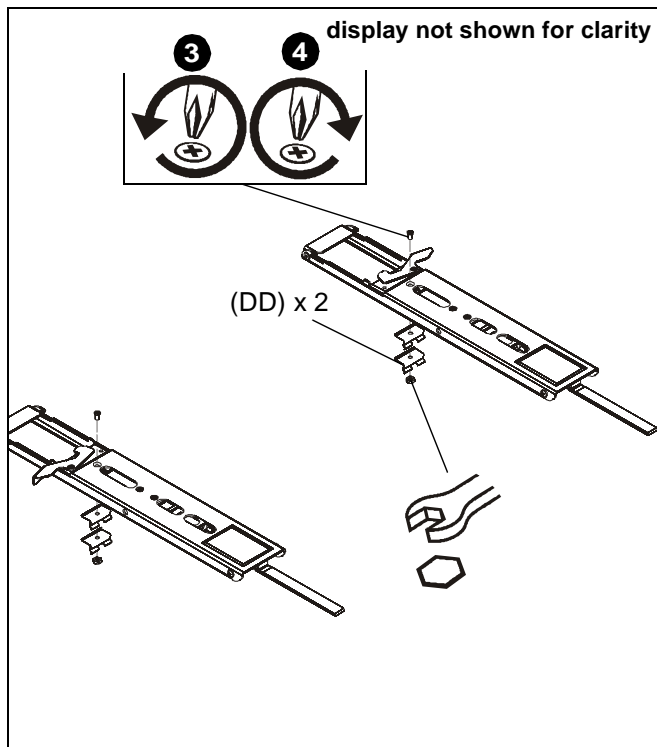

Figure 8
**IMPORTANT !** : Display should be held in vertical position by spring clips. Listen for clicking sound when returning display to the full vertical position. For larger displays, a second spring clip (DD) may be added to each upright so that the display can be held in the full vertical position by these clips. Follow steps below to install the extra spring clip.
1. Remove display and attached uprights from wall plate (A) to gain access to spring clip screws.
3. Remove hex nuts and screws holding spring clips to uprights. (See Figure 8)
4. Use removed hex nuts and screws to install additional spring clips (DD) along with removed spring clips onto uprights. (See Figure 8)